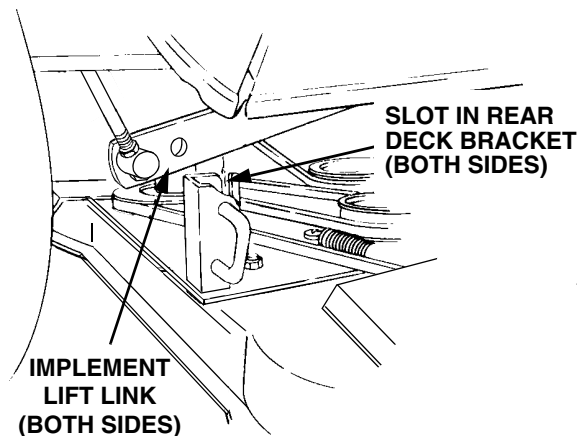

Figure 29
4. Raise the tractor implement lift handle to its highest setting and slide the deck under the tractor. Make sure the slot in each rear deck bracket aligns with the implement lift link on each side of the tractor (See Figure 29).